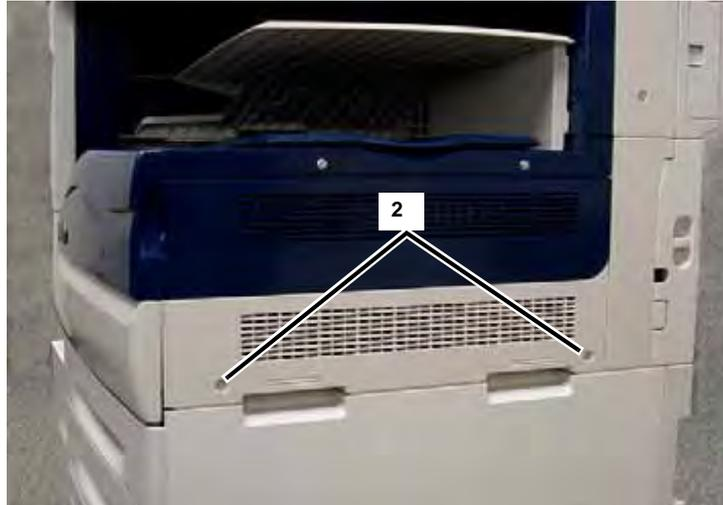

Figure 1 Removing Screws
2. Remove the Right Cover 2 (2 Screws) (Figure 1).